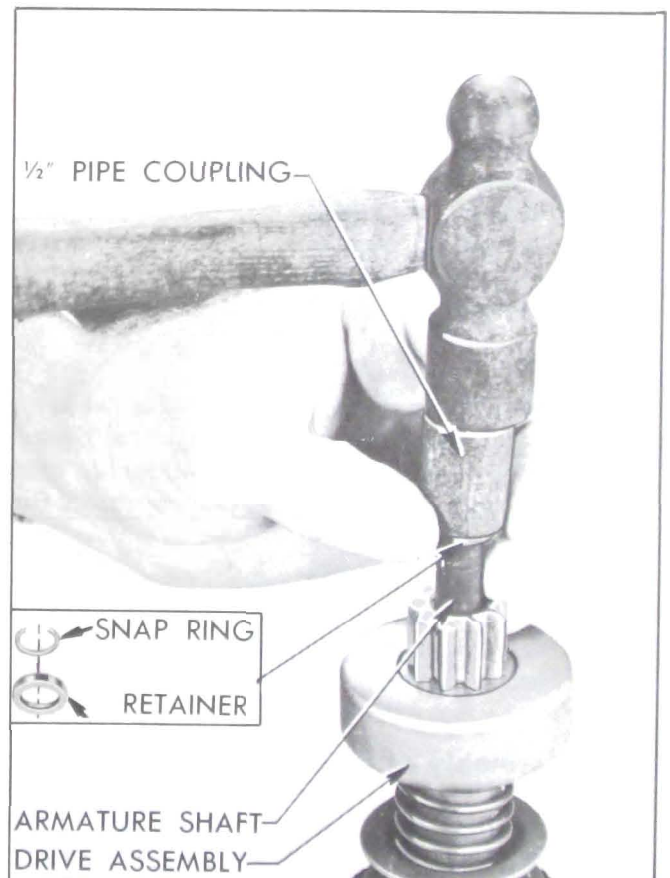

Figure 10-30—Removing Pinion Stop Retainer and Snap Ring
7. To remove drive assembly from armature, place a metal cylinder of proper size (1/2" pipe coupling will do) over end of shaft to bear against the pinion stop retainer. Tap retainer toward armature to uncover snap ring. See Figure 10-30. Remove snap ring from groove in shaft, then slide retainer and pinion drive assembly from shaft.